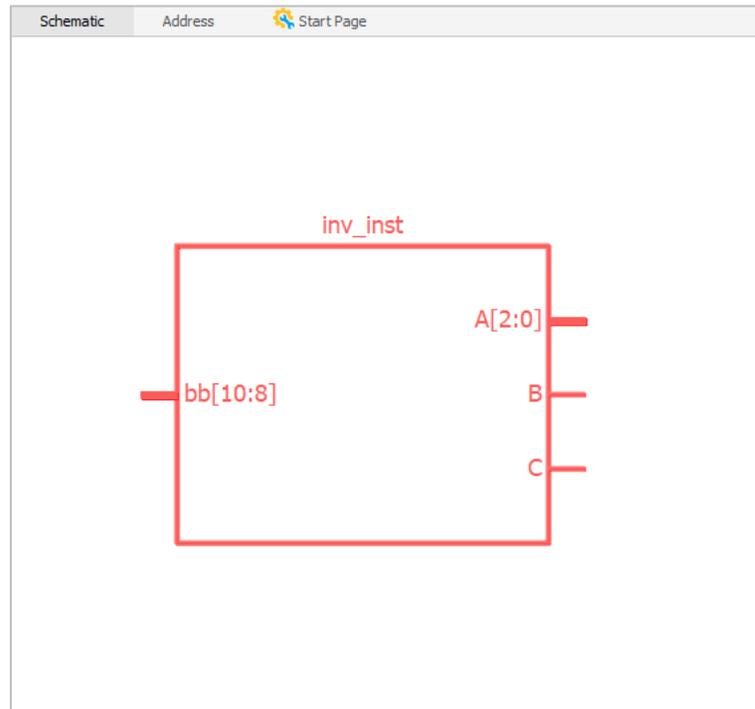

Figure 2.30. Schematic View Shows the Custom RTL Module
- Click **OK**. The schematic block for the RTL module in red appears in the Schematic view (Figure 2.30).